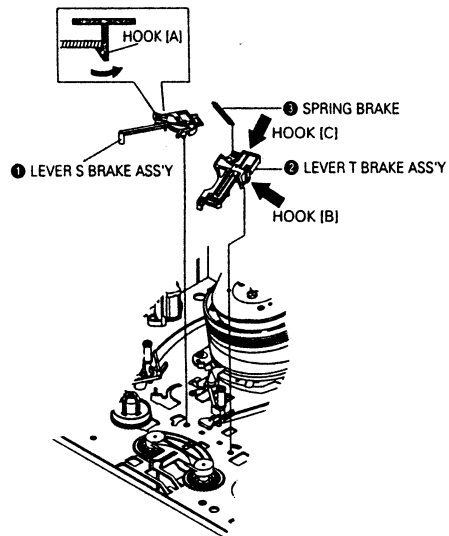

Fig. 1-16 Lever S, T Brake Ass'y Removal
- 1) Release the Hook [A] and the Hook [B], [C] in the direction of arrow as shown in Fig. 1-16.
- 2) Lift the Lever S, T Brake Ass'y ①, ② with Spring Brake ③.